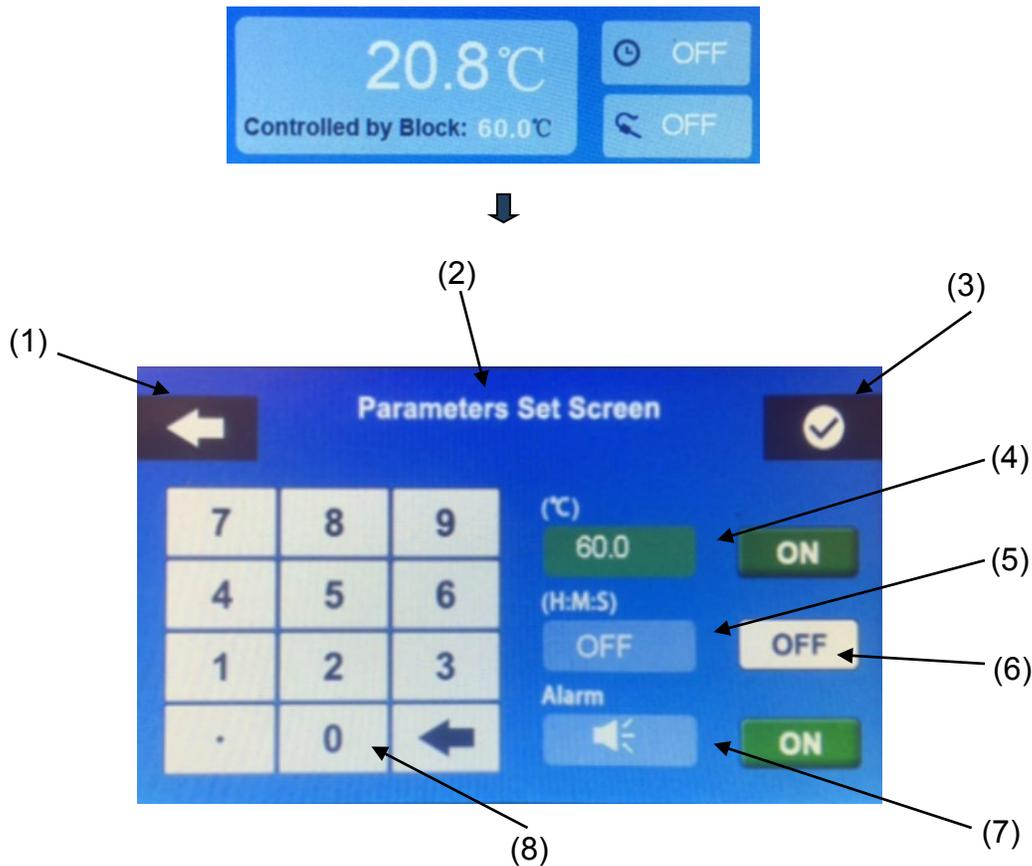

Figure 4
**4.3 Home Screen Continued (Figure 4)** – The home screen displays all operating parameters and allows for access to menus to configure the unit